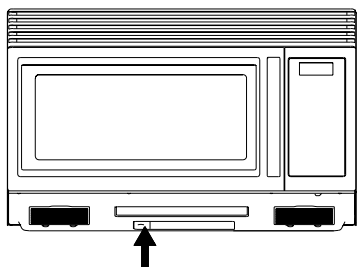

FIGURE 1
2. Remove screw on left side of light compartment cover and lower cover until it stops. (See Figures 1 and 2.)